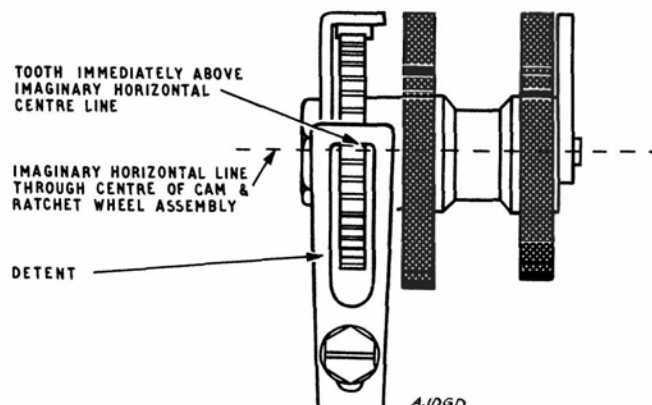

FIG. 7
**12. Detent.** The detent should engage squarely the ratchet wheel tooth which is immediately above an imaginary horizontal line marking the centre of the cam and ratchet wheel assembly (see Fig. 7).